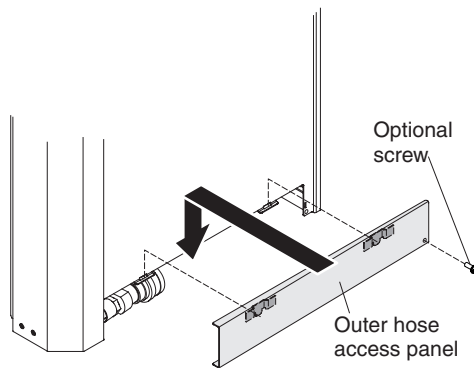

Figure 14. Installing the outer hose access panel
- c. (Optional) Secure the outer hose access panel to the heat exchanger with an M4 screw (see Figure 14).